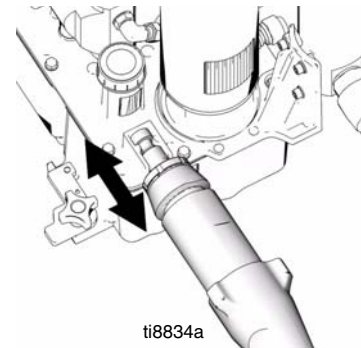

FIG. 20
1. (Fig. 20) If needed, place pump rod in adjustment casting and pull pump to lengthen rod.